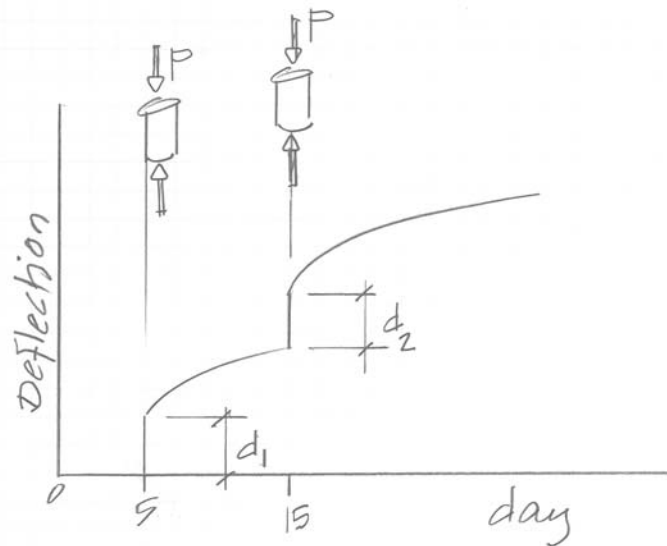

FIGURE 3 CREEP OF MEMBER WITH MULTIPLE LOADS
- ❖ Refer to Fig. 3. When loaded on day 5, a member deflects d_1 and continues to deflect due to creep. When a second load is added on day 15, there will be a lesser instantaneous deflection (d_2) due to aging (increase in modulus of elasticity). Past day 15, the member continues to creep due to both loads.